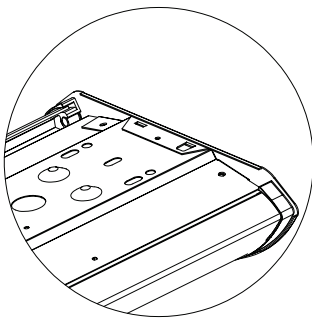

FIG.6
- 2 To hang the Housing, route and affix each evenly measured aircraft cable to the openings on the back of the fixture. (Figure 6)